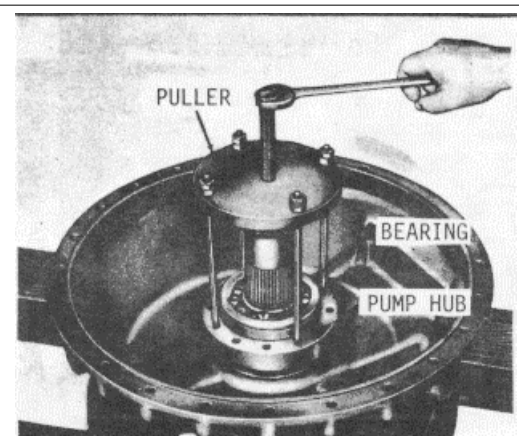

Fig. 10
- (10) The converter pump hub and bearing may come off with the converter pump. If not, remove the hub with bearing (Fig. 10).
- (11) Remove the bearing from the converter pump hub.